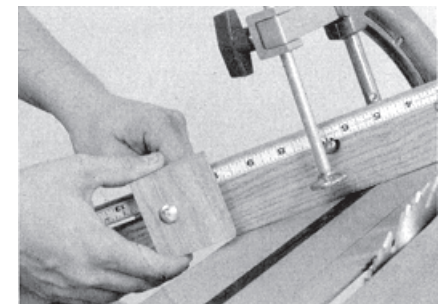

Fig. 4
6. Using stop block on miter jig, set distance from block to inside of teeth (see Fig. 4).